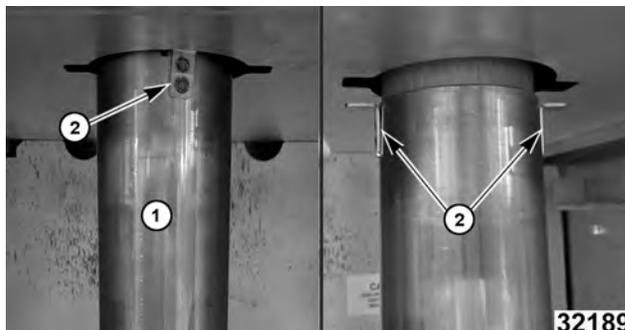

Fig. 3
2. Remove drain tube (1, Fig. 3) by turning to align tabs (2, Fig. 3) with slots. Tube will drop free.